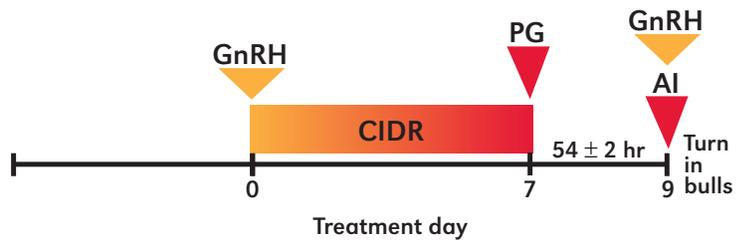

Figure 8. CO-Synch & CIDR TAI.
**CO-Synch + CIDR TAI** (Figure 8). This protocol requires three separate injections and the use of a CIDR. On day 0 of the protocol, all heifers receive a CIDR and a GnRH injection. On day 7, the CIDR is removed and heifers receive an injection of prostaglandin. Between 52 and 56 hours (slightly more than two days) following the prostaglandin injection, heifers are injected with GnRH again and are mass-inseminated (day 9 of the protocol).